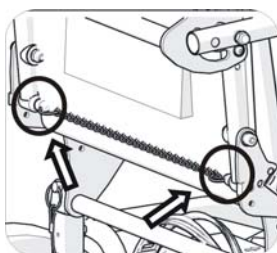

Figure 7-2
7.6.2 Backrest Angle Adjustment Ring (see figures 7-2)